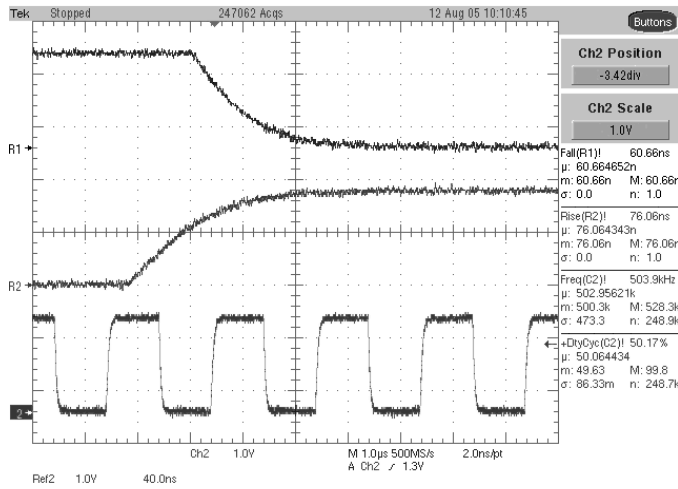

Figure 11: SIM_RST waveforms / SIM_V_{CC} = 1.8 V & C_{OUT} > 33 pF
- RST and SIM_RST are Boolean-like signals (Figures 11 and 12).